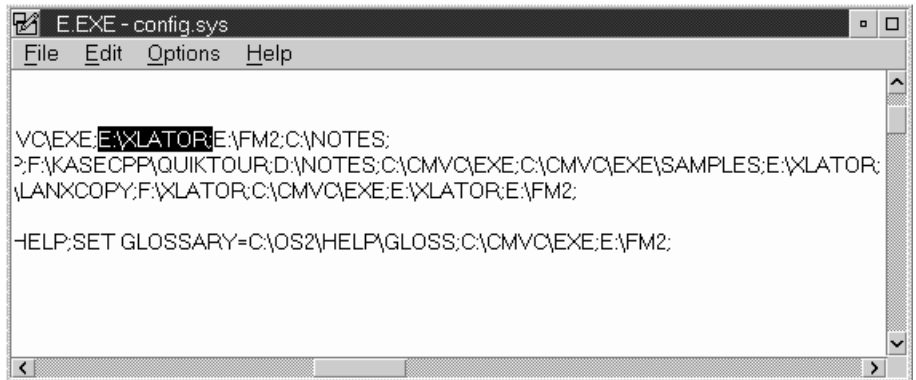

Figure 102. Editing CONFIG.SYS
- Using the system editor, edit CONFIG.SYS to add XLATOR to PATH, LIBPATH and DPATH, as shown in Figure 102, and save the changes.